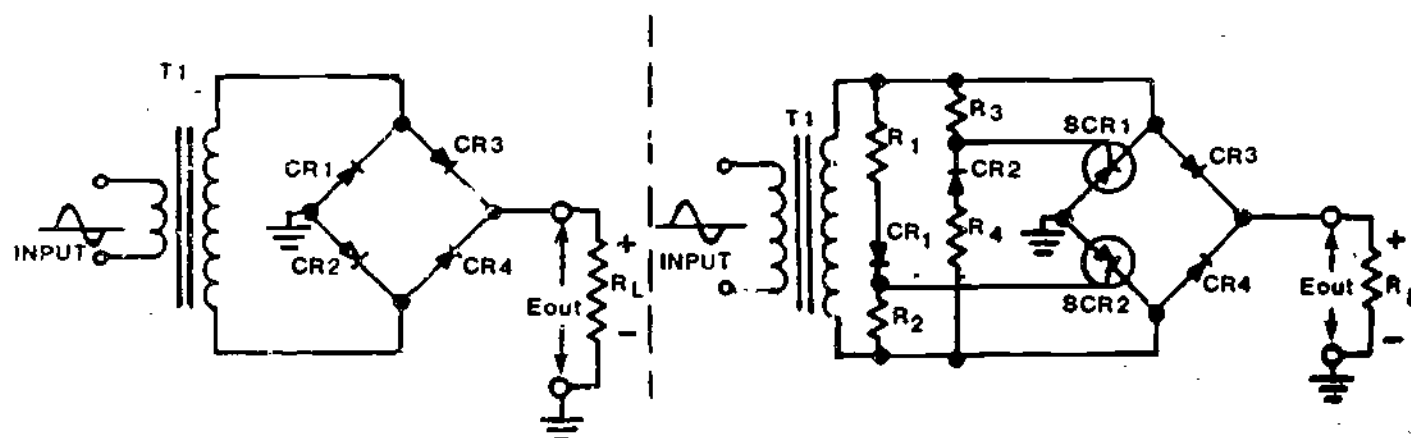

Figure 18
(21.) Recall that a full-wave SCR power supply like the full-wave diode power supply requires a center-tapped transformer secondary and therefore it utilizes only half of the transformer's secondary potential at any given time. To make full use of the secondary voltage, an SCR bridge power supply may be used. The SCR bridge power supply in many ways is identical with a regular bridge diode power supply which you have previously studied. Figure 18 shows schematics for a standard diode bridge power supply and an SCR bridge power supply. Spend some time acquainting yourself with the similarities of the two types of power supplies before proceeding.
- (22.) Refer again to the schematics shown in Figure 18. Notice that the only difference between these two schematics is that the SCR bridge power supply uses two SCRs and gating or triggering networks.